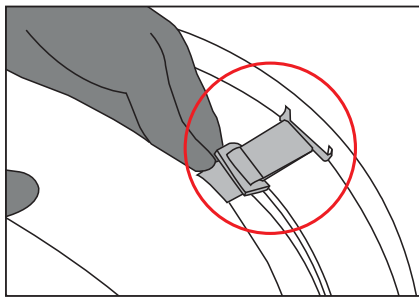

Figure 4.3
- Next, on the rear of the seat there are five straps. Starting with one of the two straps on the outside, feed the strap through the slot in the back of the walker. **See Figure 4.3.**